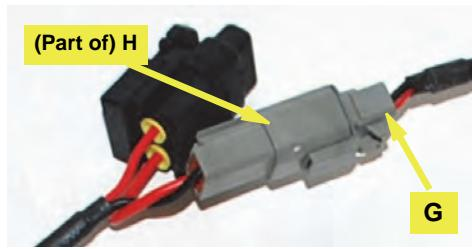

Figure 5c: Power cable to junction box cable
- d. Connect the gray connector of the power cable **G** (routed into the cab at step 5a) to the gray cable from the junction box **H** (Figure 5c).